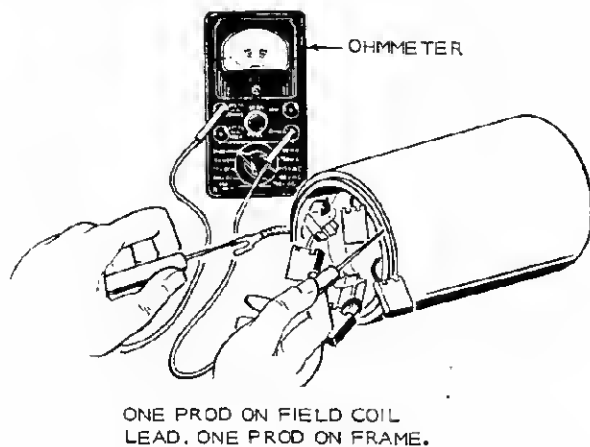

FIGURE 37a. FIELD COIL GROUND TEST
**Testing Field Coils for Grounds:** After unsoldering the shunt field coil wire, place one test prod on the connector and the other on a clean spot on the frame. If the ohmmeter indicates continuity, the fields are grounded either at the connector or in the windings (Figure 37a).